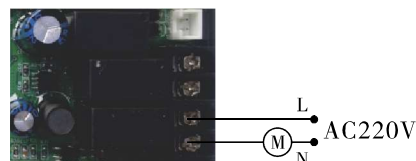

Figure3-5
E. If the working current is less than 5A, the wiring of water pump refers to Figure 3-5 (Be suitable for iron and manganese removal device).